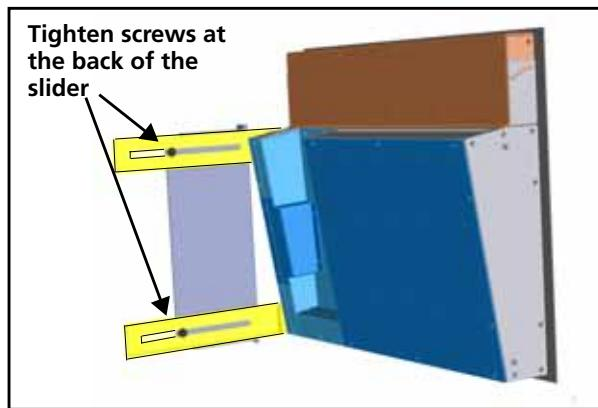

Figure 2-14 Adjustment of Slider Screws
- 7 Loosen the screws on the sliders, and then reposition the sliders to change the viewing angle of the control panels (see Figure 2-14).